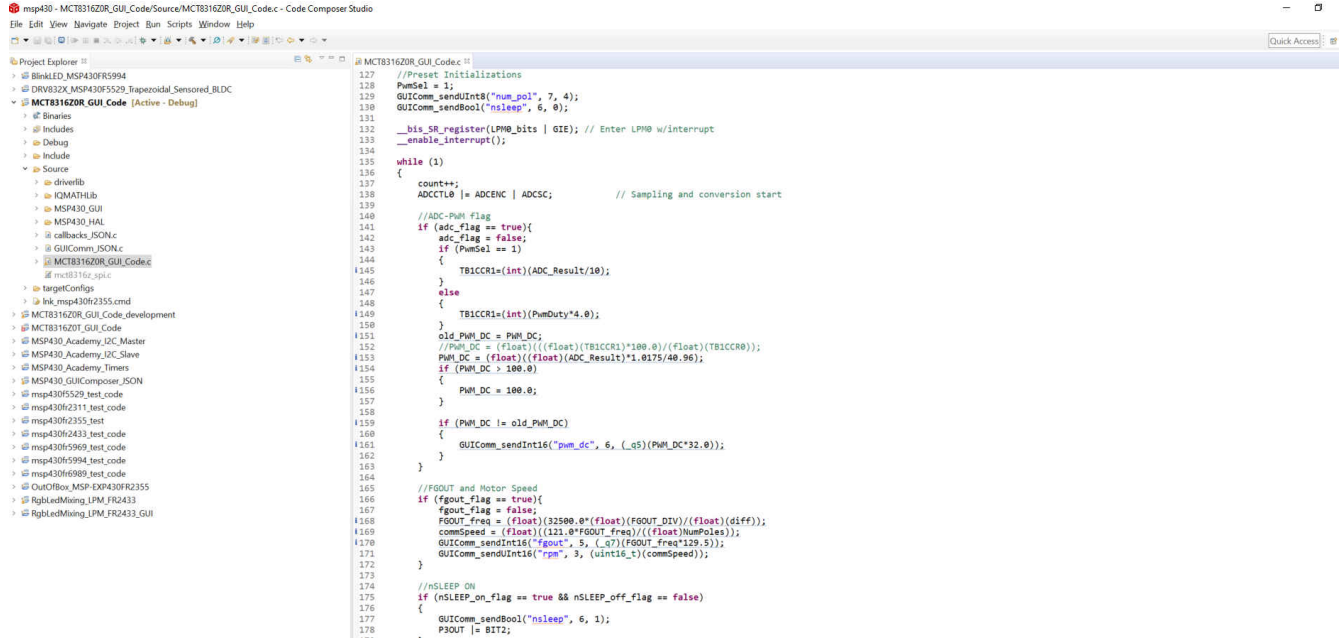

Figure 7-1. MSP430FR2355 Interface Firmware Code in Code Composer Studio
6. Import the project “MCT8317EVM_MSP430FR2355_Firmware_GUI” into your workspace as shown in Figure 7-1.